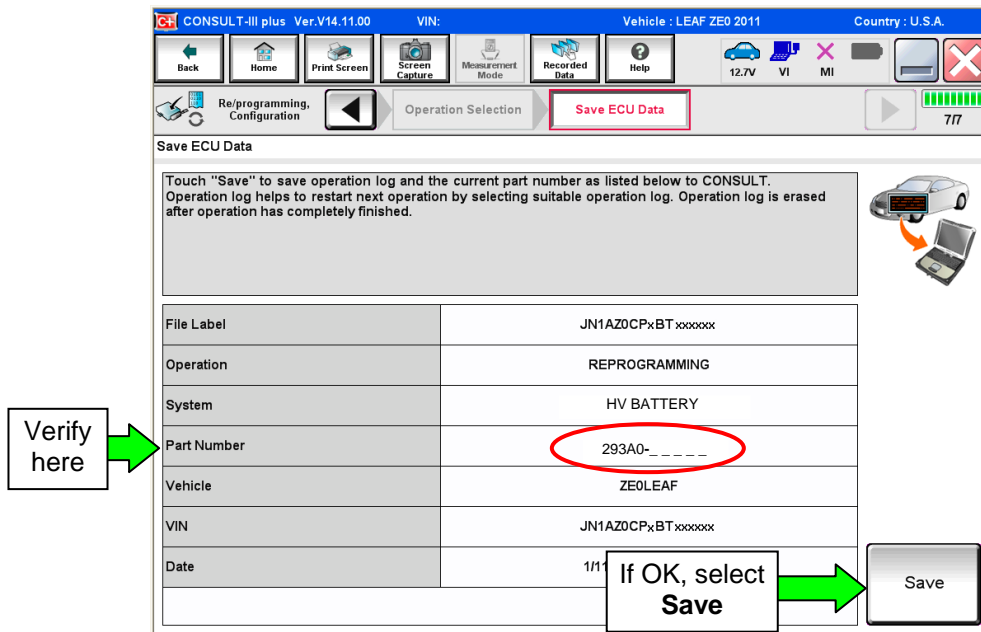

Figure 25
30. Write down the **Part Number** on the vehicle's repair order from Figure 25 and confirm if it matches one of the part numbers in Table "B" below.